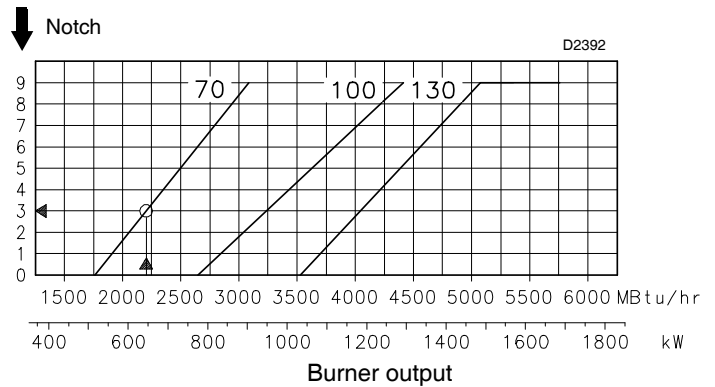
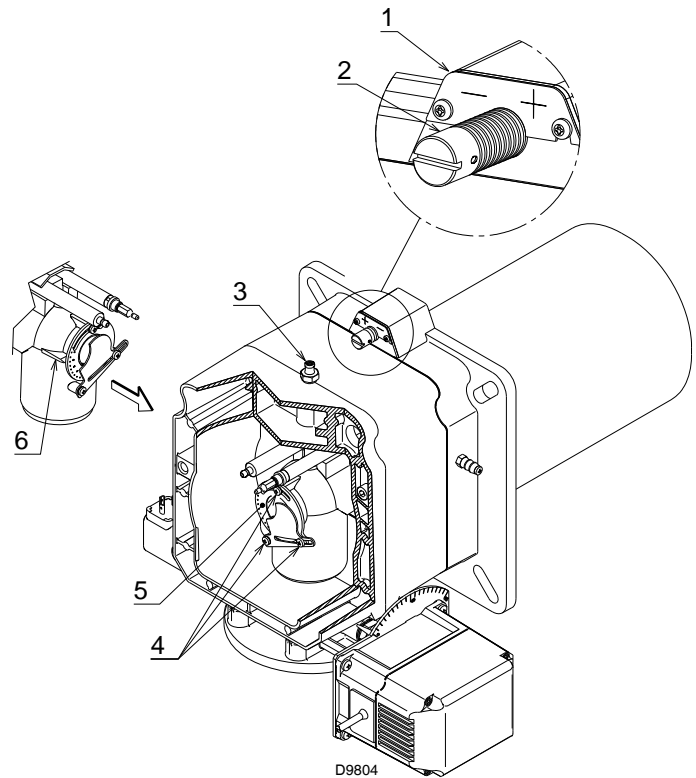

Fig. 15
Fig. 16
In the diagram of Fig. 15, find the notch at which to adjust both air and central gas/air.
Turn screw 4)(Fig. 16) until the notch identified is aligned with the front surface 5)(Fig. 16) of the flange.
To facilitate adjustment, loosen the screw 3) (Fig. 16), adjust and then lock.
- Loosen the 3 screws 1)(Fig. 16) and turn ring 2) until the notch identified is aligned with index 3).
If we consult diagram (Fig. 15) we find that for this output, air must be adjusted using notch 3.
Fig. 15 shows the ideal settings for the ring 2)(Fig. 16).
If the gas main pressure is too low to reach the maximum output operation pressure indicated in Fig. 21, page 24, and if the ring 2)(Fig. 16) is not fully open, it can be opened wider by 1 or 2 notches.
Continuing with the previous example, Fig. 22 indicates that for burner RS 70/EV with output of 2200 MBtu/hr a pressure of approximately 2.36 "WC is necessary at test point 6)(Fig. 16).
If the pressure cannot be reached, open the ring 2)(Fig. 16) to notch 4 or 5.
- Ring nut 2)(Fig. 16) adjusted as in the diagram of Fig. 15
- Ring nut 2) (Fig. 16) adjusted as in the diagram of Fig. 15